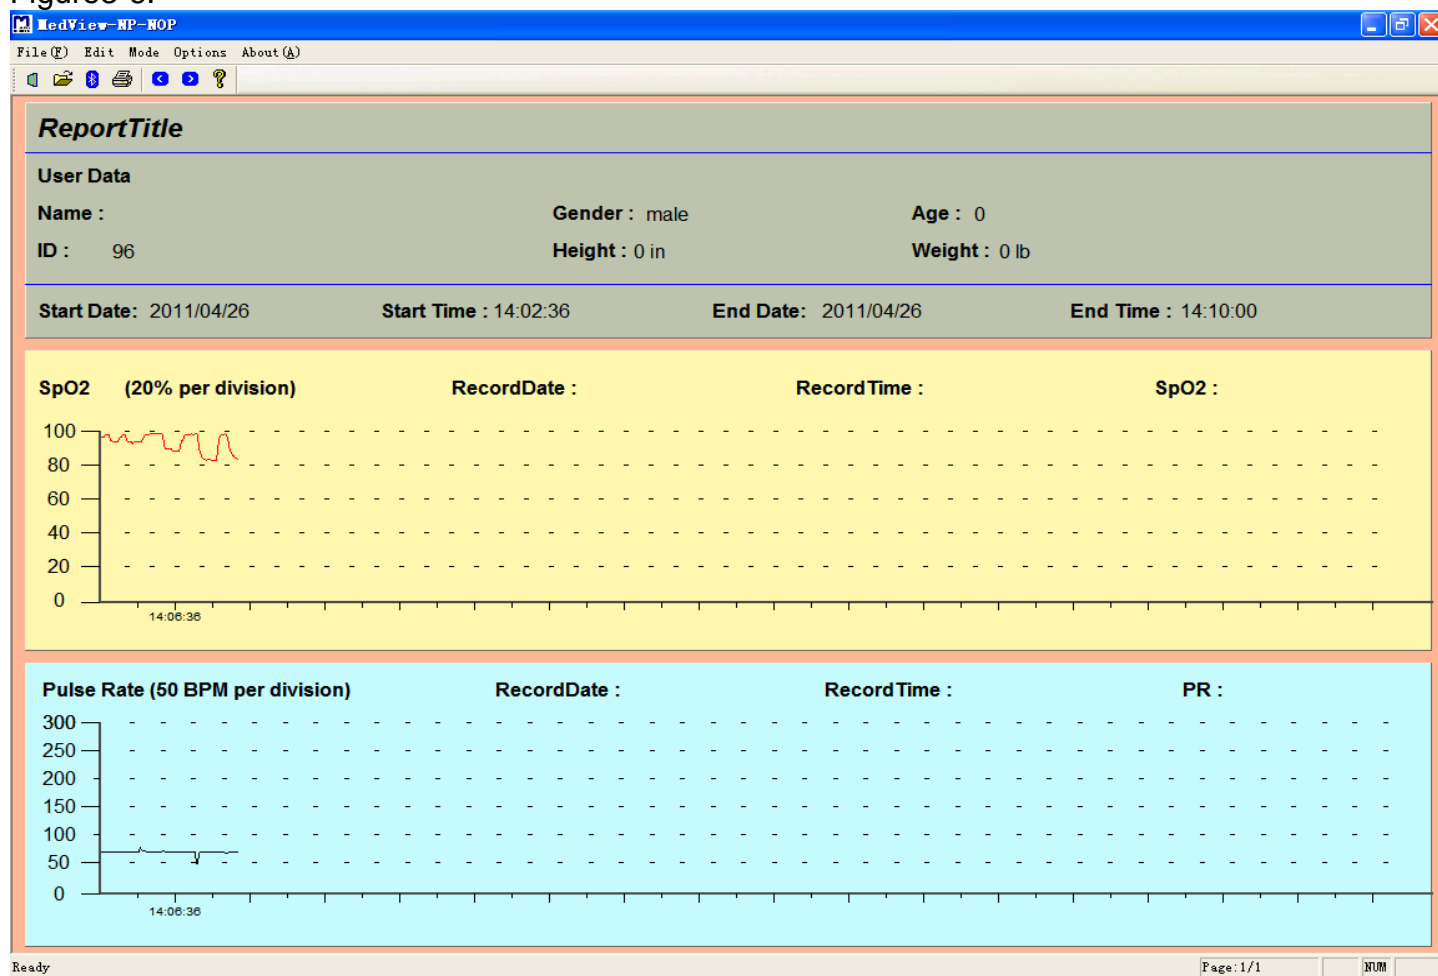

Figure 3-6
3.1.6 Select one record in “Data Info” column then click “Done” to display the trend graph as shown in Figure3-6.